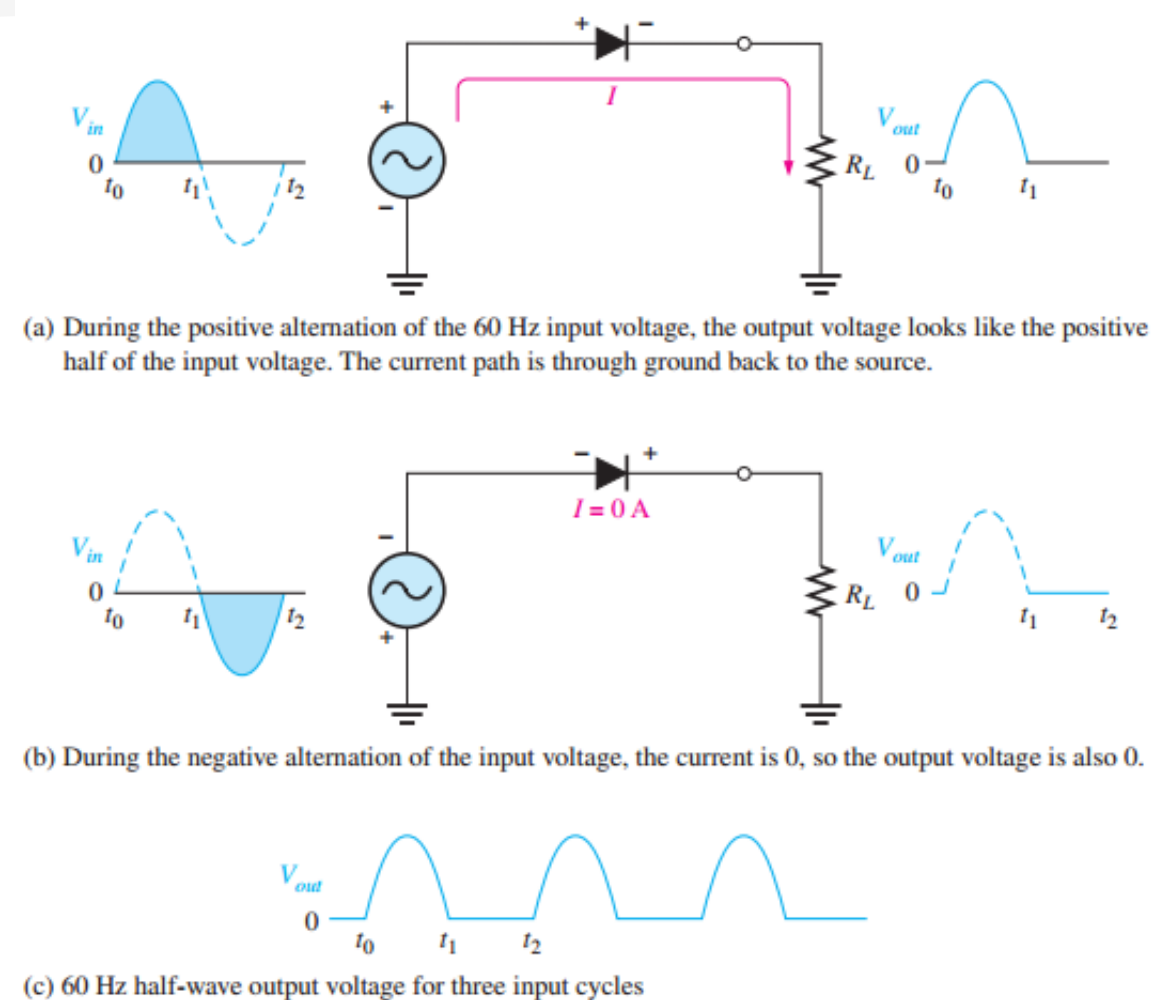

FIGURE 3-2 Half-wave rectifier operation.
- Figure 3-2 illustrates the process called **half-wave rectification**. A diode is connected to an ac source and to a load resistor, R_L , forming a half-wave rectifier.